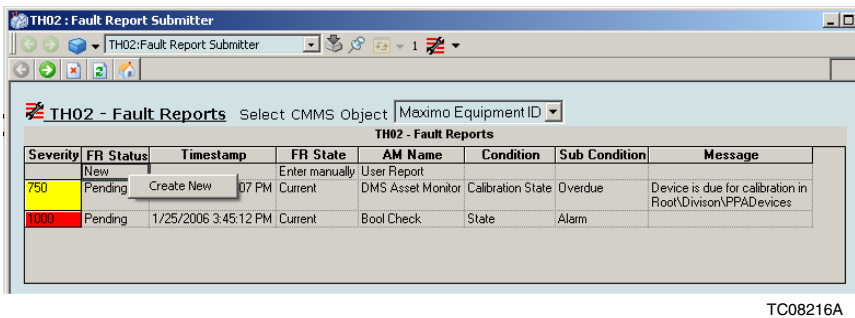

Figure 29. Fault Report Submitter
3. Select the Maximo, SAP/PM, or any other provider Equipment ID for which it is desired to create a Fault Report. This will produce a view similar to the one shown in Figure 29.